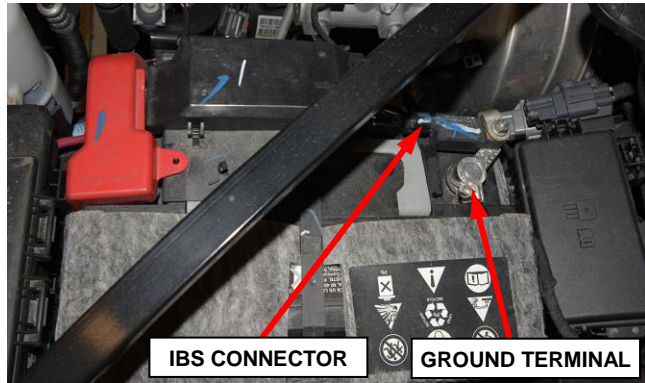

Figure 1 – Battery Negative Connection
1. Disconnect the Intelligent Battery Sensor (IBS) wire harness connector (Figure 1).
2. Loosen the ground terminal nut and remove the battery negative cable with IBS from the battery and isolate it (Figure 1).
36. Install the battery negative cable with IBS to the battery negative post then tighten the ground terminal nut to 6 N·m (53 in. lbs.) (Figure 1).